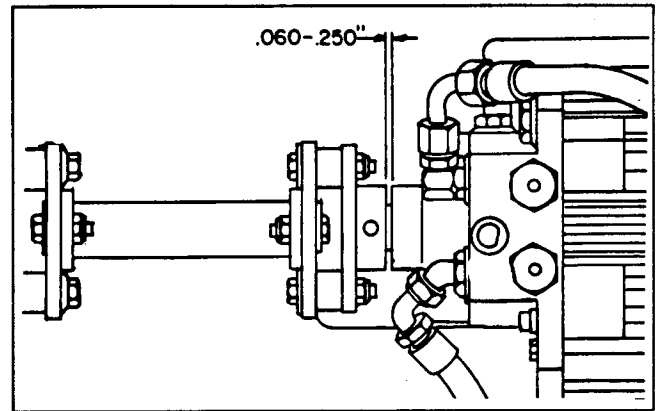

Figure 8
**NOTE:** After installing the drive coupling assembly between the engine and transmission, the rubber coupling must not be deformed more than .250 in (6mm) either direction. If coupling is deformed, correct the condition by loosening the transmission pump hub setscrews and changing the position of the pump hub. However, the end of the pump hub must be positioned 0.060 - 0.250 in. (1.5 - 6mm) away from the transmission face (Fig. 8). Tighten the setscrews on the pump hub to a torque of 12 ft-lb (1.7 KgM).